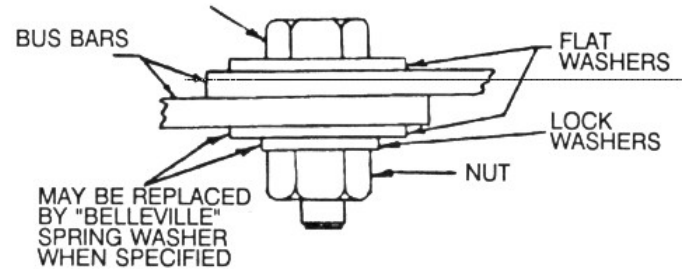

Figure 3.
2. Bolt splice plates and bus bars together, following assembly instructions as given under section entitled Connections. (See Table 2 and Figure 3).